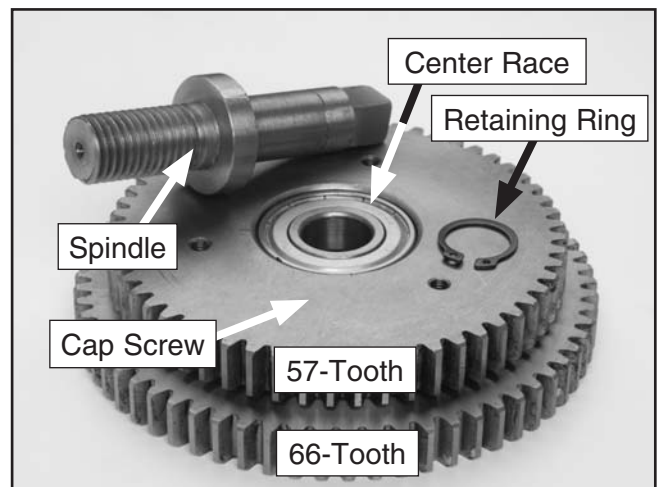

Figure 64. Spindle and center gear assy.
4. Using retaining ring pliers, remove the retaining ring from the spindle (**Figure 64**).